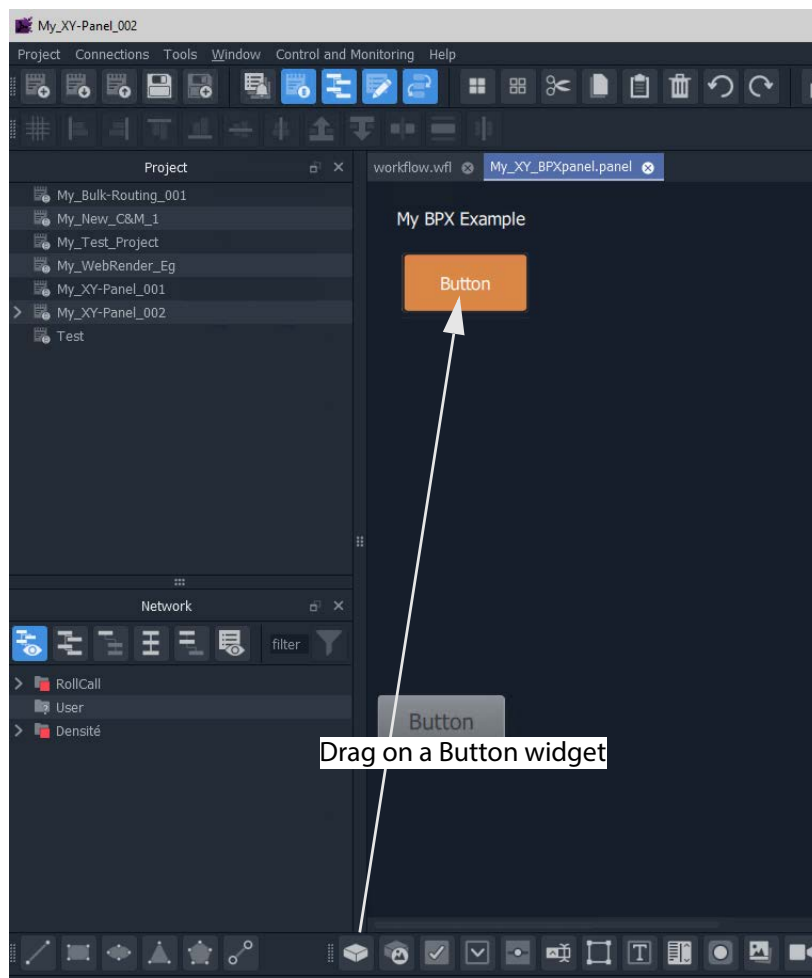

Fig. 14-49: Add a Button Widget
- 2 Add a graphical **Button** widget to the panel. (See Figure 14-49.)